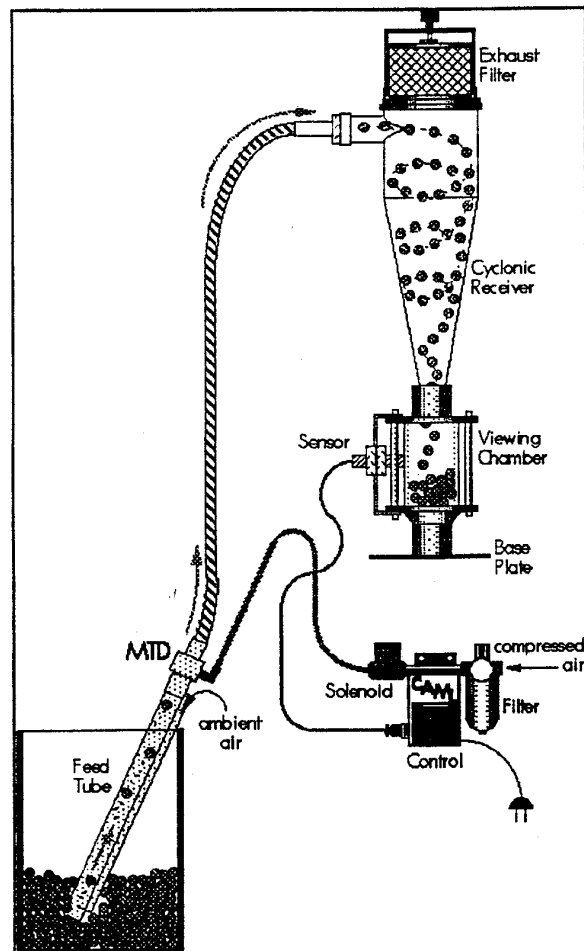

FIGURE 10 - SINGLE MATERIAL SYSTEM
**SINGLE MATERIAL SYSTEM** (See Figure 10)